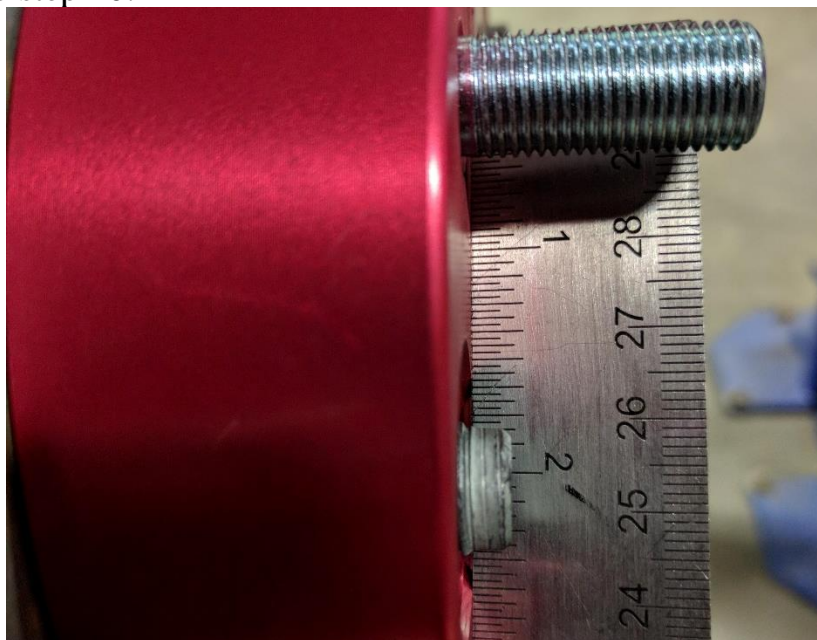
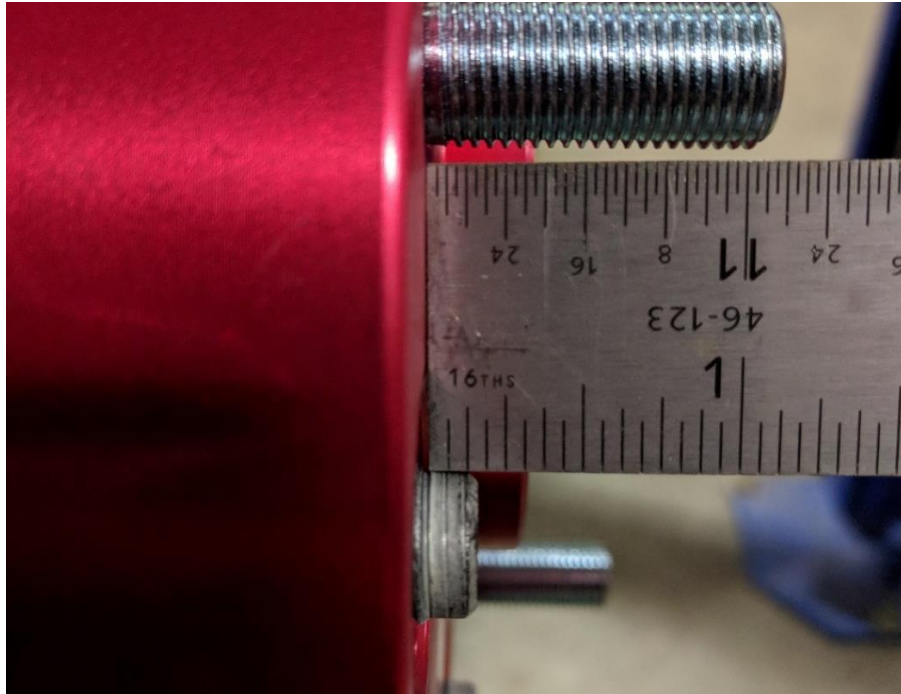

Figure 1. OEM Wheel Studs Extending Beyond Face of Wheel Spacer
Figure 2. Measuring Stud Extension
4. Install wheel spacer / adapter to drum / rotor using the lug nuts provided with the kit. **Be sure the spacers clear the OEM wheel studs and are sitting flat against the face of the rotor / drum. Be sure the factory wheel studs are not extending beyond the face of the wheel spacer. See Figure 1.** If the studs do not extend beyond the face of the wheel spacer, proceed to step 10.
5. If the factory studs extend beyond the face of the wheel spacer as shown in **Figure 1**, then they must be trimmed. Measure how far the studs extend beyond the spacer as shown in **Figure 2**.